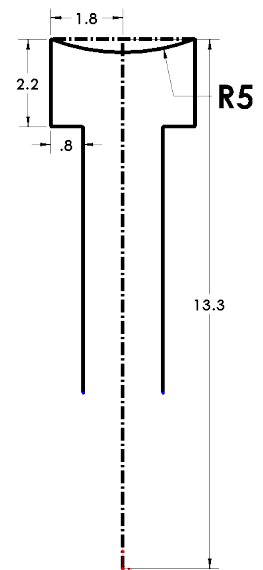

Fig. 9
Step 3. Click **Smart Dimension**  (S) on the Sketch toolbar.
Step 4. Dimension arc **5** as shown in **Fig. 9**.